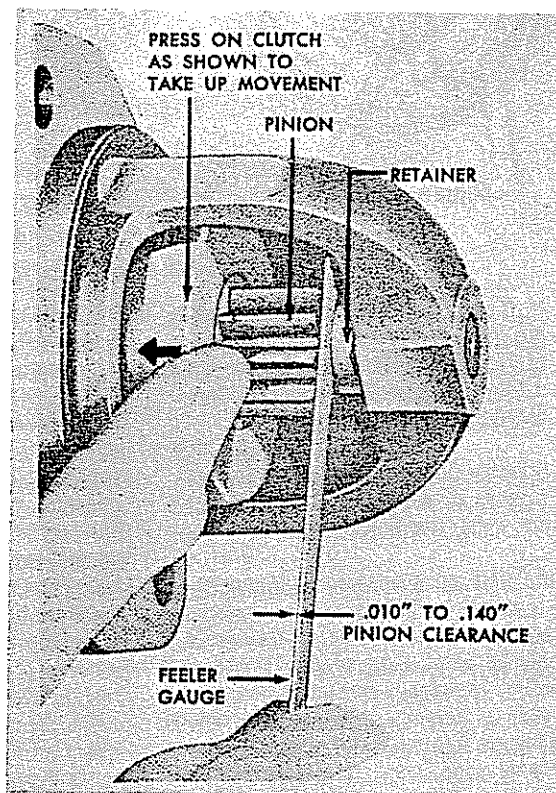

Figure 11—Checking pinion clearance.
5. Measure the distance between pinion and pinion stop (Fig. 11).